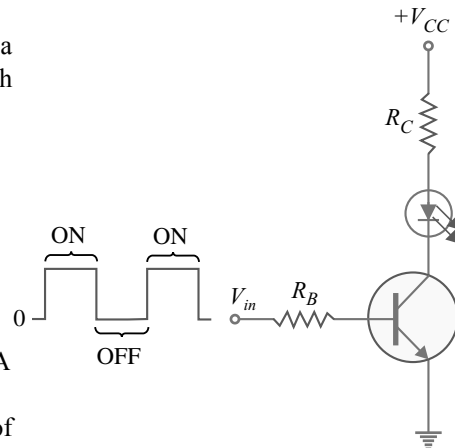

Fig. 16.14
**Example 16.7.** Fig. 16.14 shows the use of a transistor to switch ON or OFF the LED. The LED requires 30 mA to emit sufficient level of light. The circuit values are :  $V_{CC} = 9$  V ;  $V_{CE(sat)} = 0.3$  V ;  $R_C = 270$   $\Omega$  ;  $R_B = 3.3$  k $\Omega$  and  $\beta = 50$ . Find the amplitude of the input square wave. Use double the minimum value of base current as a safety measure to ensure saturation.